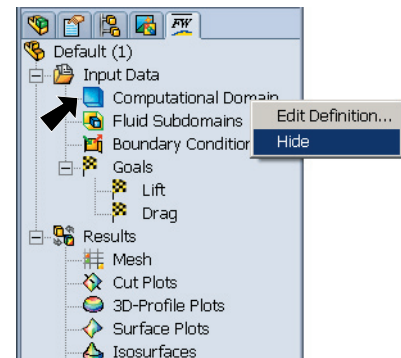

Fig. 19
Step 1. Right click **Computational Domain** in FloWorks tree and click **Hide**, **Fig. 19**.